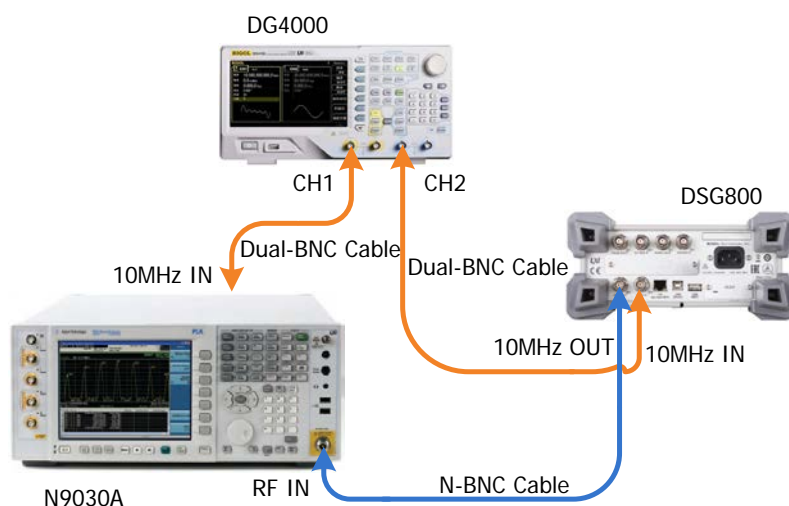

Figure 2-8 10 MHz Reference Input Amplitude Range Test Connection Diagram
1. Connect the **[CH1]** output terminal of the function/arbitrary waveform generator with the **[10MHz IN]** input terminal of the signal analyzer. Set the signal analyzer to external reference; set the frequency and amplitude of CH1 of the function/arbitrary waveform generator to 10 MHz and +5 dBm respectively and turn on the output to synchronize the function/arbitrary waveform generator and signal analyzer, as shown in Figure 2-8.